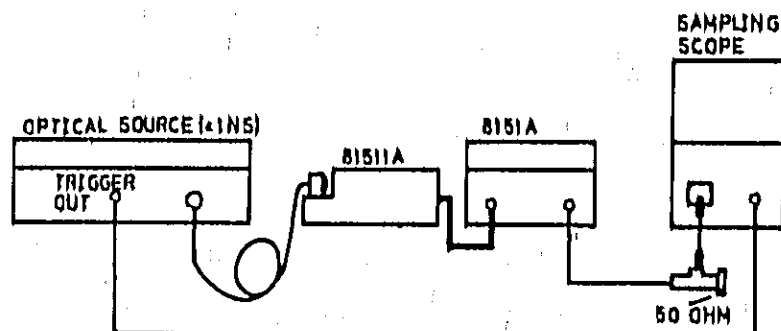

Figure 4-10. Test setup for Pulse Response tests
1. Connect the equipment as shown in Figure 4-10.